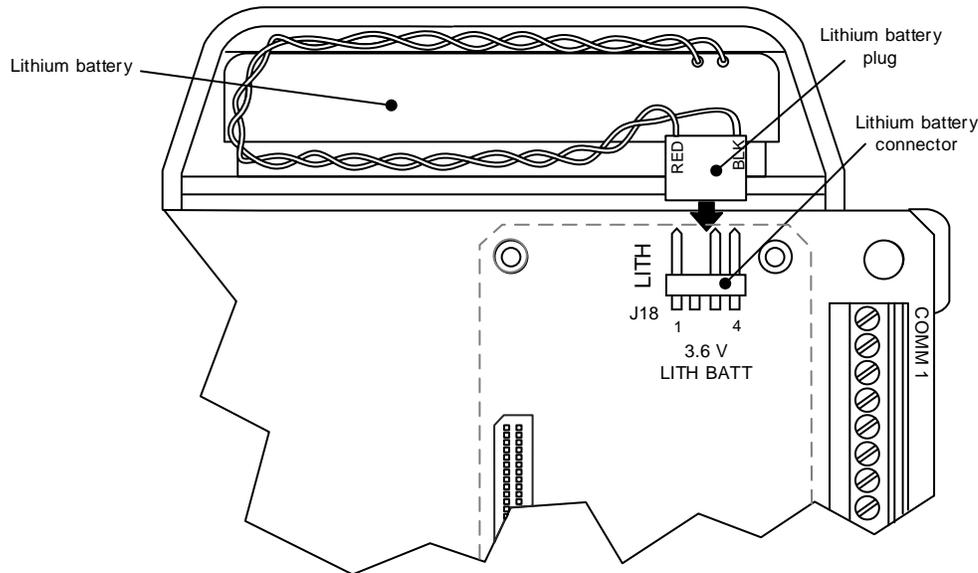

Figure 79: μ FLO^{G5} electronic board components
3. Verify that the J18 lithium battery is connected to the electronic board (Figure 79).